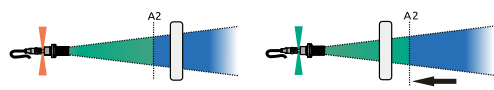

Figure 17 - Single trigger on approaching object
- The output signal switches when the object approach distance (S) is smaller than the adjustment distance (A2). The operating principle is shown in Figure 17. A user-wide setting must be implemented for operation:  $A2 = S$ ,  $A1 \rightarrow \infty$ .